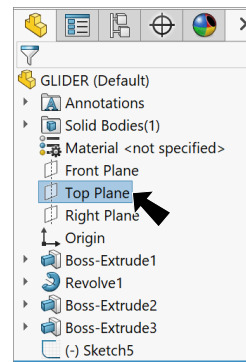

Fig. 36
Step 9. Click **Top Plane**  in the Feature Manager to select the plane, **Fig. 36**.